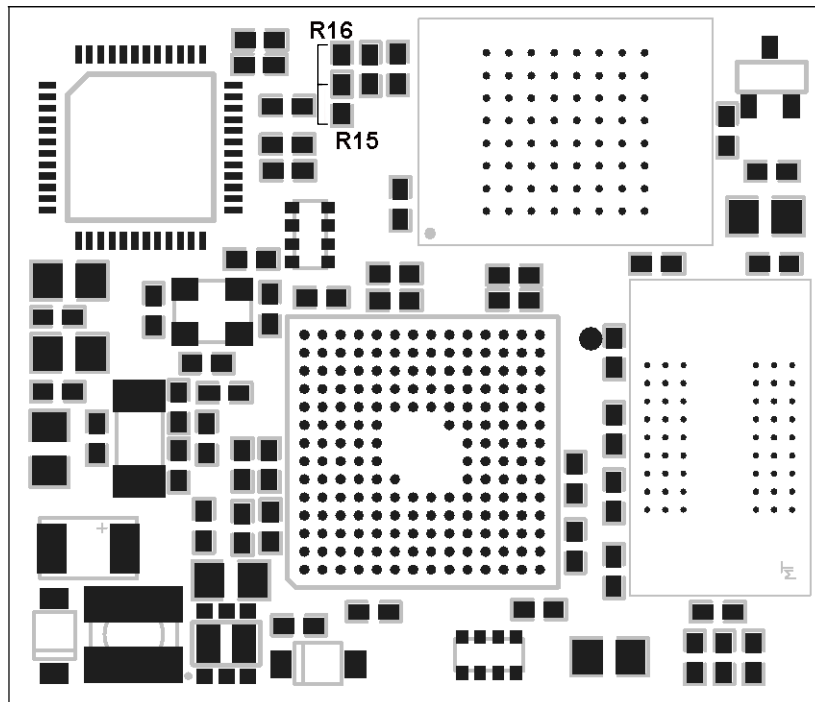

Figure 3-4: Core Module (component side)
* Pin 7 (PF4) is by default internally connected to the address A21 of the flash memory (for addressing the upper 2MB of the 4MB Flash). If PF4 is needed and 2 MB flash are sufficient move resistor R16 to the position of R15 as shown in Figure 3-4.